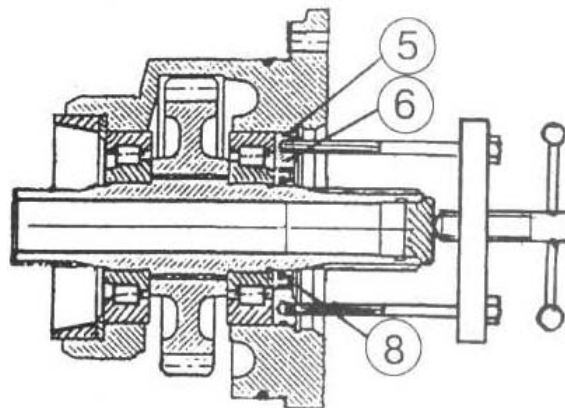

Figure 4.111
- d) remove from shell 6 (Figure 4.111) sealing ring 5 and press out sealing ring 8;